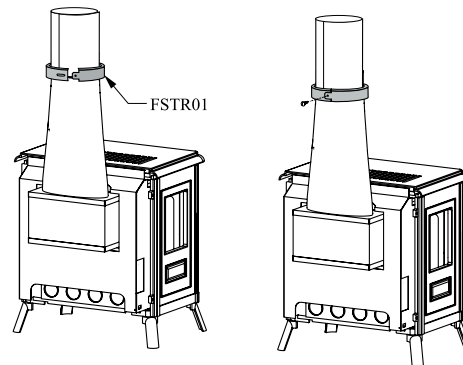

Figure 11. Installing the decorative brass rings.
7. Cover each joint in the stove pipes with a brass decorator ring. The rings should cover the joint as well as the sheet metal screws. Attach the ring using the black 3/8" screws provided. Make sure the screw is facing the back of the stove. See Figure 11.
Cover each joint in the stove pipes with a brass decorator ring. The rings should cover the joint as well as the sheet metal screws. Attach the ring using the black 3/8" screws provided. Make sure the screw is facing the back of the stove. See Figure 11.